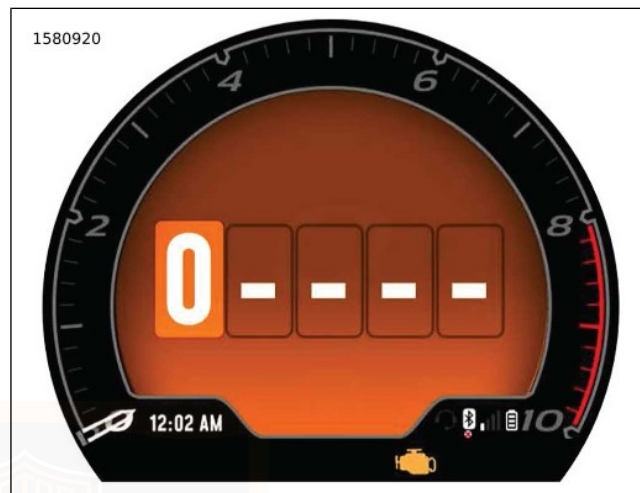

Figure 18. PIN Entry Screen
- Figure 18 The PIN screen will display.
- Figure 18 Select the first digit of the PIN.